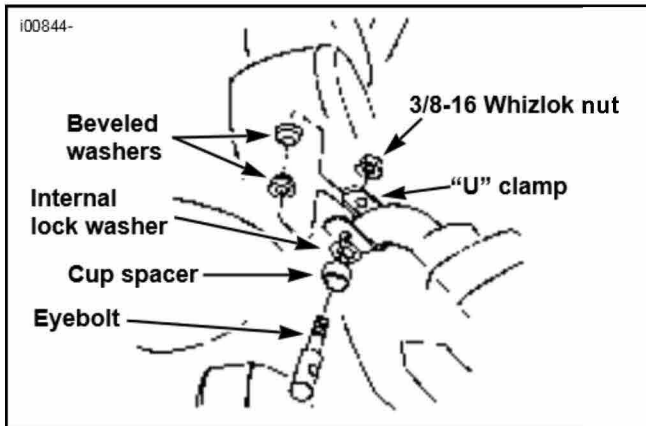

Figure 2. Assemble "U" Clamp
2. See Figure 2. Place "U" clamp around vertical segment of handlebar with open side of "U" clamp facing generally forward. Put cup spacer and internal lock washer on eyebolt. Slip eyebolt through bottom of "U" clamp from outside of handlebar. At the same time insert two beveled washers into eyebolt inside "U" clamp (bevels toward each other), one on each side of handlebar. Start whizlok nuts on eye-bolt, but do not tighten.